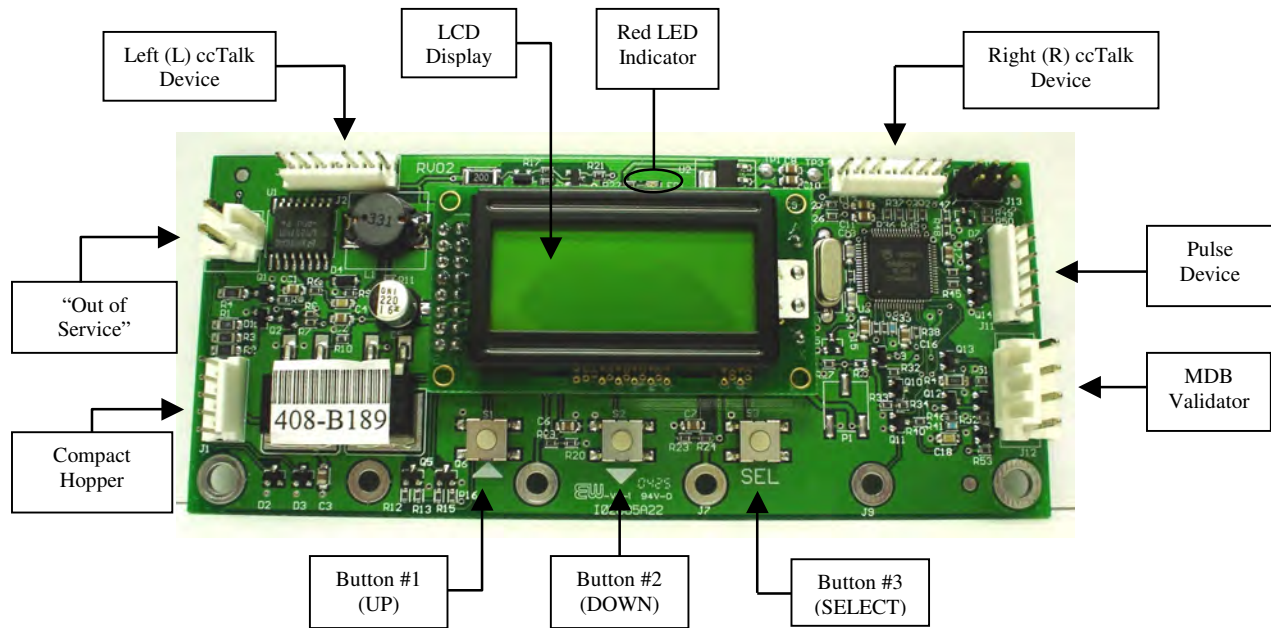

Figure 1 – Main Logic Board
Power-ON the changer, and allow it to run through its start-up procedure, which may take up to a minute or more. During this time, you will hear the validator motors cycling. This is normal. After waiting the allotted time, the changer will be in its Standby state, ready to accept bills or coins. In this state, the MLB display's backlight will be on continuously, and the screen will display the current count of total dollars changed by the machine. Additionally, the board's red LED will blink once per second to indicate that the unit is getting power and functioning normally. (See Figure 1.)
Your changer comes preset with default operational settings that are easily reprogrammed to meet your desired application. Programming is done using the three buttons and LCD display located on the Main Logic Board as an interface. (See Figure 1.)
ccTalk: Select this option if using one or more hoppers with a ccTalk serial interface to the Main Logic Board (MLB). Once selected, enter the number of ccTalk hoppers – one or two – to be used in the changer. *Note: Each Logic Board has the capacity to control two ccTalk hoppers, left and right; but, if only one is used, it must be plugged into the left-side connector (see Figure 1 for the ccTalk device connections on the MLB). Further Note: If your model changer has two Logic Boards and two hoppers, then only one hopper will be controlled by each board; select '1' as the number of ccTalk hoppers on both boards.*
ccTalk: This option should be selected if the installed coin acceptor communicates with the Main Logic Board using ccTalk serial communication protocol (see Figure 1 for the ccTalk device connections on the MLB; contact the coin acceptor's manufacturer or American Changer if help is needed). After choosing ccTalk, the program prompts for specification of the currency type that will be processed by the coin acceptor. Choose either U.S. or Canadian coins.
Pulse: If the installed coin acceptor communicates with the Logic Board using Pulse Protocol, select 'Pulse' (the Condor Plus uses Pulse communication). Following this, the program will request specification of the logic level used to enable the coin acceptor, high (Hi) or low (Lo) (for the Condor Plus, select high). **Note:** *The Logic Board can only control one pulse device; if a pulse validator is installed, a pulse coin acceptor cannot be* (see Figure 1 for the pulse device connection on the MLB).
MDB: Select 'MDB,' and then enter how many MDB validators are installed in the changer – either one (1) or zero (None!). (See Figure 1 for the MDB validator connection on the Main Logic Board.)
Pulse: Select 'Pulse,' and then choose either one (1) or zero (None!) to specify the number of pulse validators that are inside the unit. If '1' is chosen, then the program will further prompt for whether the validator is enabled using a logic-high (Hi) or a logic-low (Lo) signal; either must be chosen. **Note:** *The Logic Board can only control one pulse device; if a pulse coin acceptor is installed, a pulse validator cannot be.* (See Figure 1 for the pulse device connection on the MLB.)